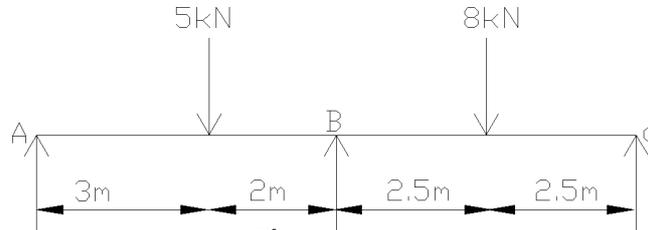

Fig.4
24. a) Analyze the continuous beam given in Fig.4 by slope deflection method and draw the B.M.D.EI is Constant.